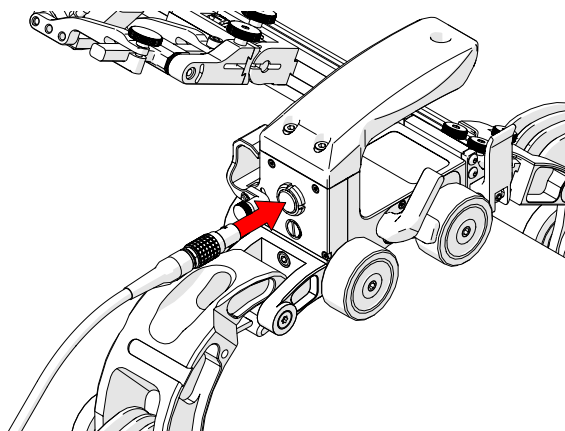

Fig. 162 - Connect encoder cable
9. Connect the encoder cable to the cart (Fig. 162).